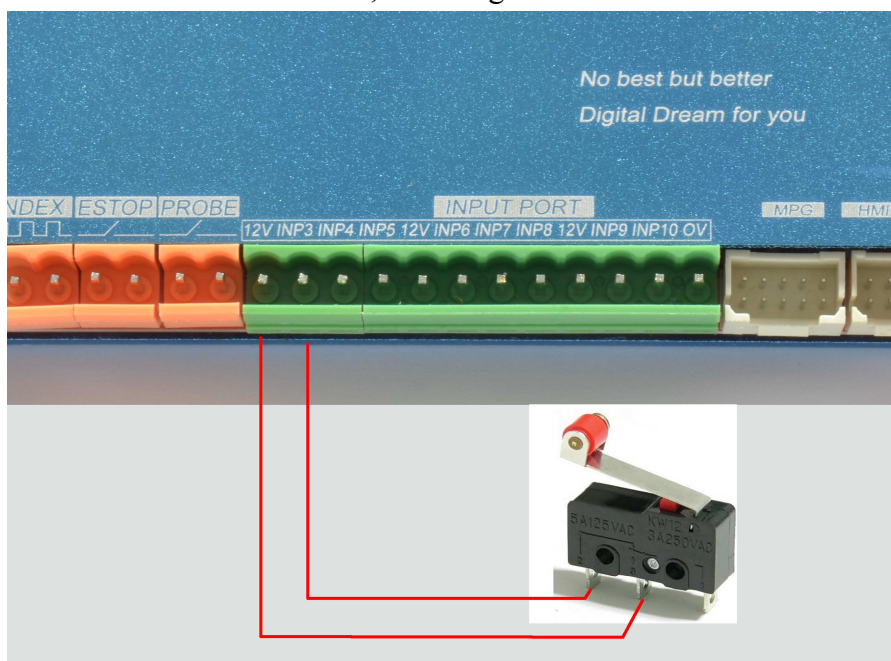
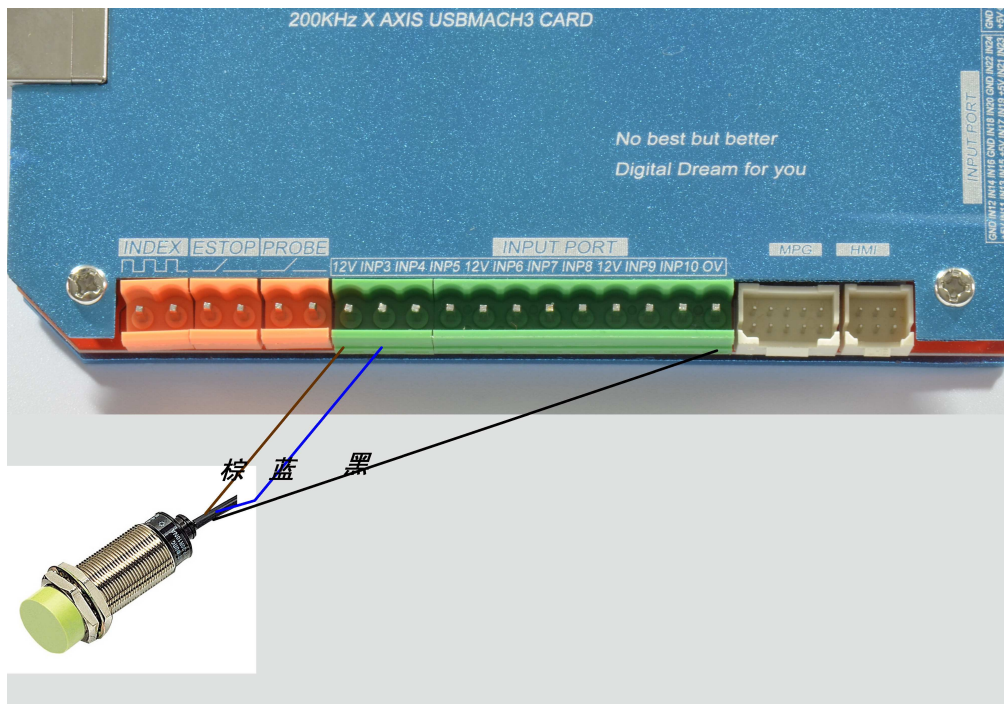

Figure2-8. General input connect to mico switch.
Figure2-9. General input connect to 3-wire inductive switch
H) General input port with opticalcoupler. See as Figure 2-8,2-wire micro switch and inductive switch connect method . Connect 12V and INPX(X=3, 4,5,6,7,8,9,10). Inductive switch positive should be connected to 12V and its negative should be connected to INPX. 3-wire PNP inductive switch should connect to PIN 0V ,see as Figure 2-9.